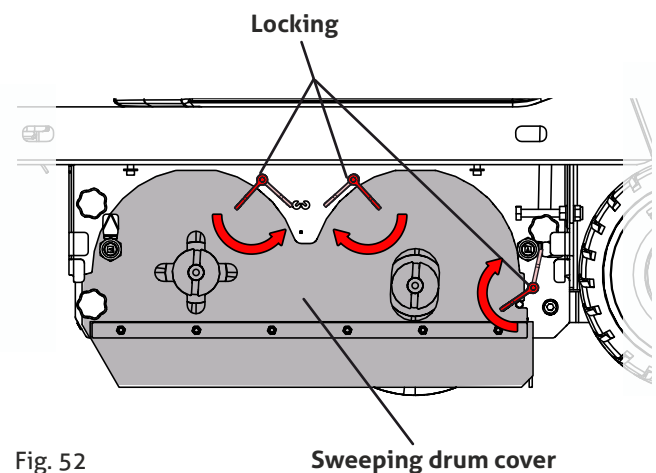

Fig. 52
- Remove the sweeping drum cover (Fig. 52) by releasing the locking handle